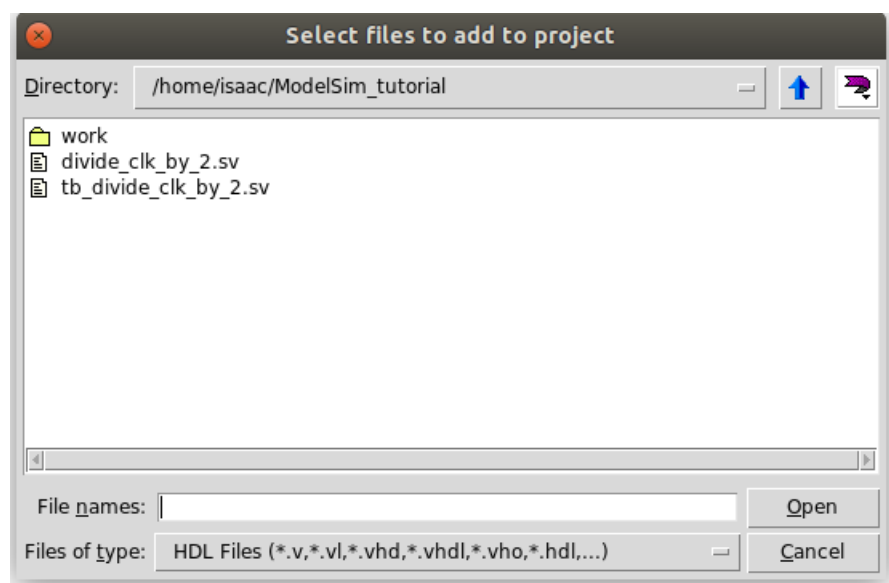

Figure 3: Files to be added.
5. Browse to the location of the provided files for this tutorial, select `divide_clk_by_2.sv` and `tb_divide_clk_by_2.sv` files and click **Open**. As shown in Figure 3, I've placed both files under the same location, which corresponds to the project's location. However, this is not necessary and we can refer to files located elsewhere in our file system.